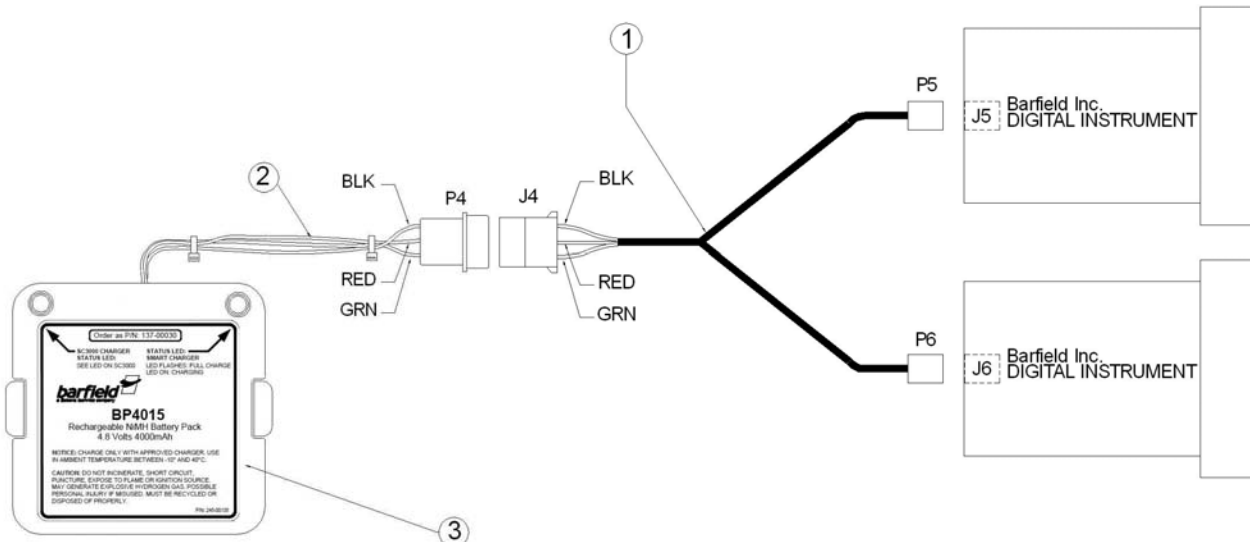

FIGURE 3
3. Connect the wire harness (Item 1, Figure 3) to digital instrument(s) and battery pack base harness. (Item 2, Figure 3).
4. Reattach panel to test set. Insert rechargeable battery pack (Item 3, Figure 3) and snap onto mounting base. Ensure Battery pack is inserted properly into base.